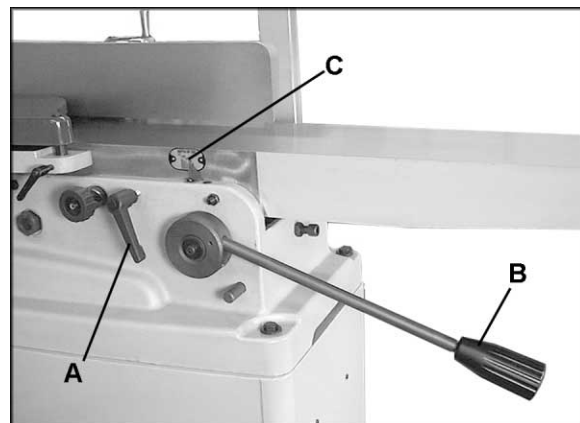

Figure 34
- Loosen locking handle (A, Figure 34).
- Move table adjustment arm (B, Figure 34) to raise or lower infeed table to the desired depth of cut, which is shown on the gauge via the pointer (C, Figure 34).
- Re-tighten locking handle (A, Figure 34).